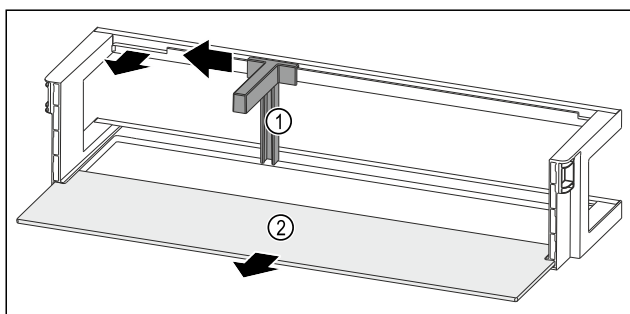

Fig. 126 Door racks with bottle holder and shelf
- Push the bottle holder Fig. 126 (1) to the side up to the recess.
- Remove the bottle holder Fig. 126 (1).
- Remove the shelf Fig. 126 (2).